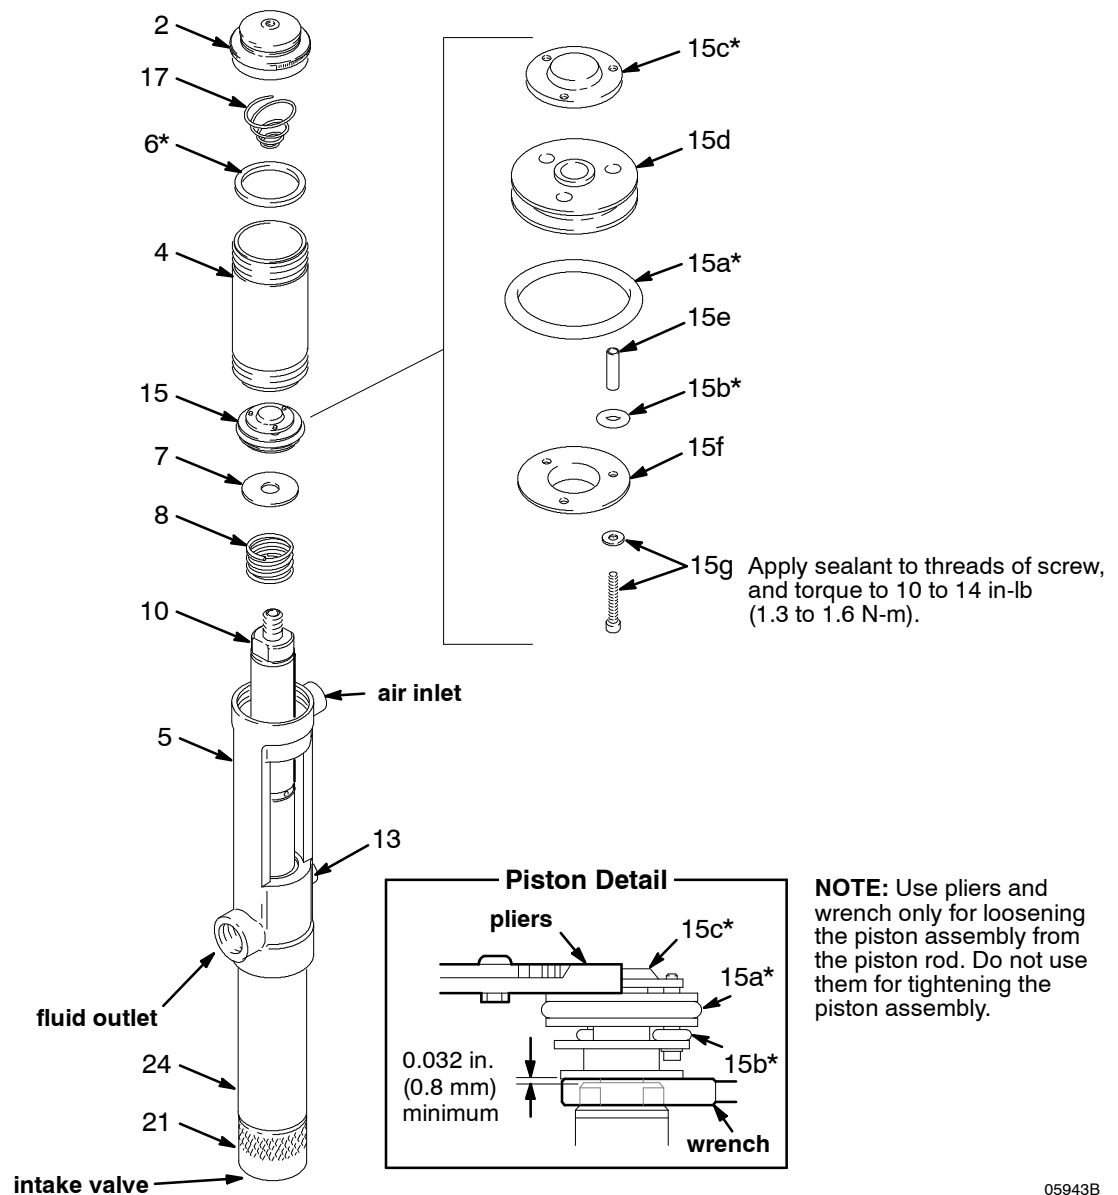

Fig. 3
See Fig. 3.
4. Remove the air cap (2). Gently pry the coils of the spring (17) to remove the spring. Check the spring for wear or damage, and replace as needed.
5. Use a strap wrench to unscrew the air cylinder (4) from the base (5).
6. Unscrew the air piston assembly (15) from the piston rod (10). Use pliers on the air exhaust plate (15c*) and a wrench on the piston rod. See the **Piston Detail** in Fig. 3.
7. Disassemble the air piston assembly (15). See the **Piston Detail** in Fig. 3. Clean all parts, and inspect them for wear or damage. If any valve plate spacers are damaged, replace all three in order to maintain the correct clearance between the valve plates and seals.
8. Check the spring (8) for wear or damage, and replace as needed.
9. Apply sealant, such as Loctite® green, to the threads of the screws. Assemble the parts as shown in the **Piston Detail** in Fig. 3. Torque the screws to 10 to 14 in-lb (1.3 to 1.6 N-m).
See Fig. 3, and see the **Parts Drawing** on page 13.